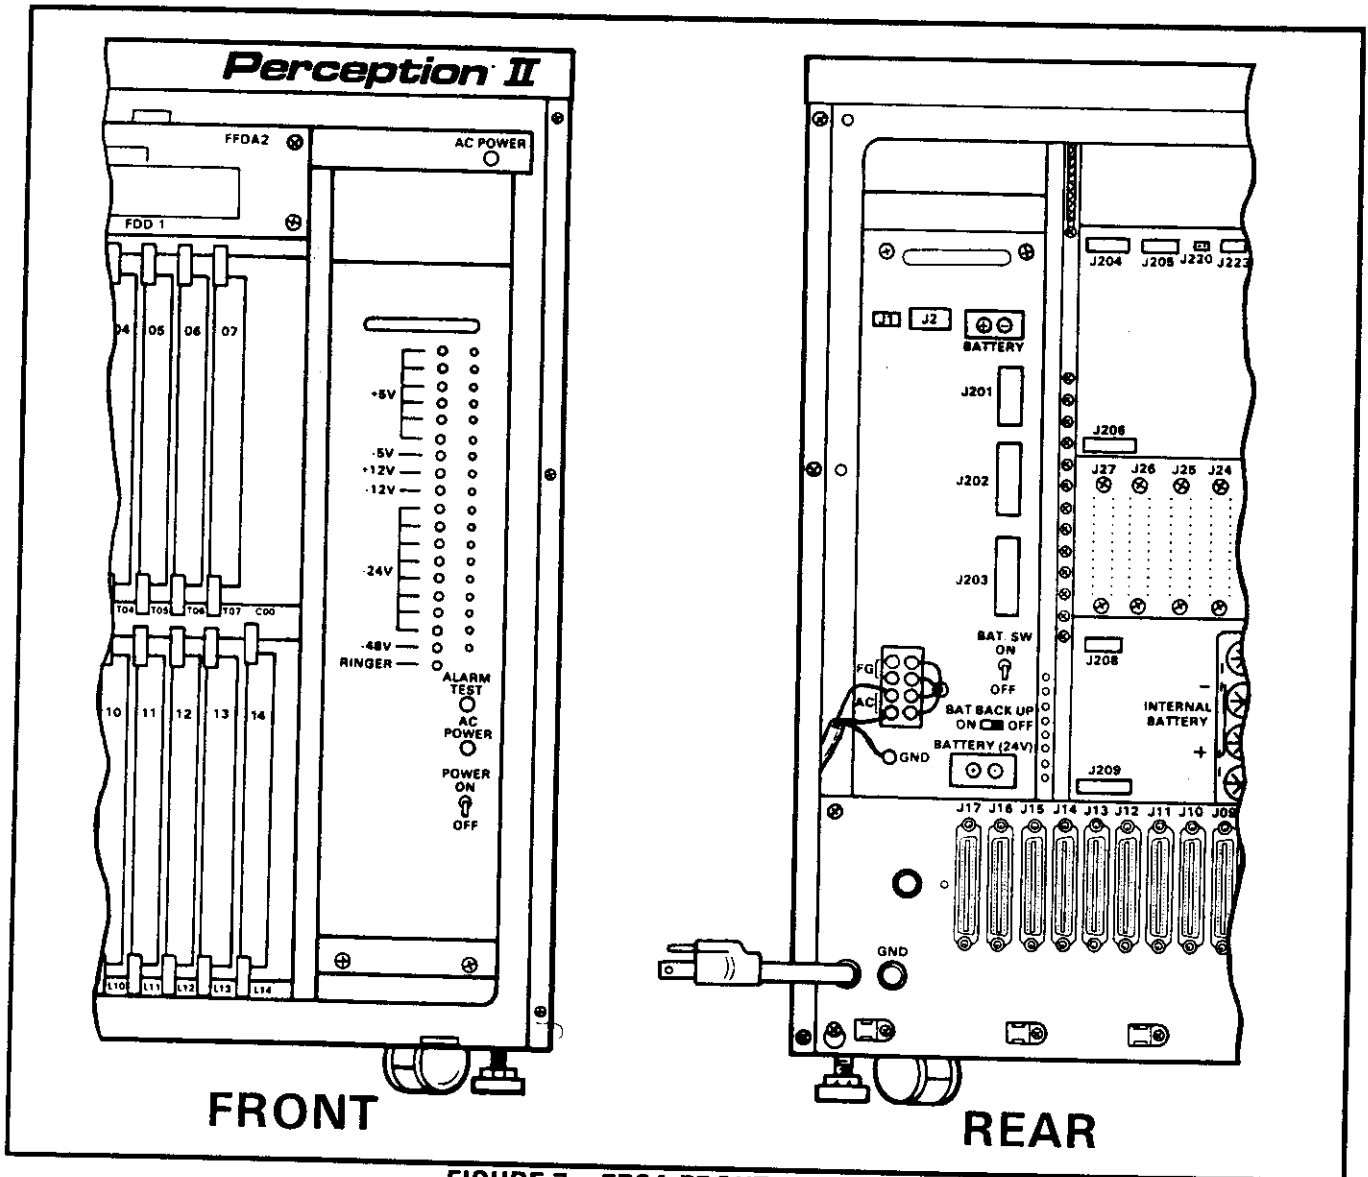

FIGURE 7—FPSA FRONT and REAR
- 1) Remove the two screws which secure the pressure plate onto the bottom front of the FCEC's power supply shelf (see Figure 7). Save both the screws and the pressure plate for later use.
- 2) Remove and save the two screws located in the upper rear corners of the FPSA, as shown in Figure 7.
- 4) From the rear of the cabinet, use the two screws that were removed in step 2 to secure the FPSA in the power supply mounting bracket (Figure 7).
- 5) Mount the pressure plate that was removed in step 1 onto the bottom of the power supply shelf so that the FPSA is secured firmly (Figure 7).